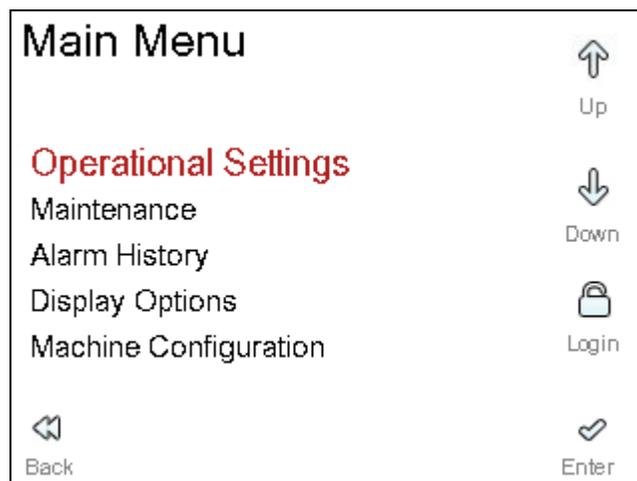

Figure 3-2: Main Menu
1. From the *Home* screen, select the *Menu* button. The *Main Menu* will appear as in Figure 3-2.